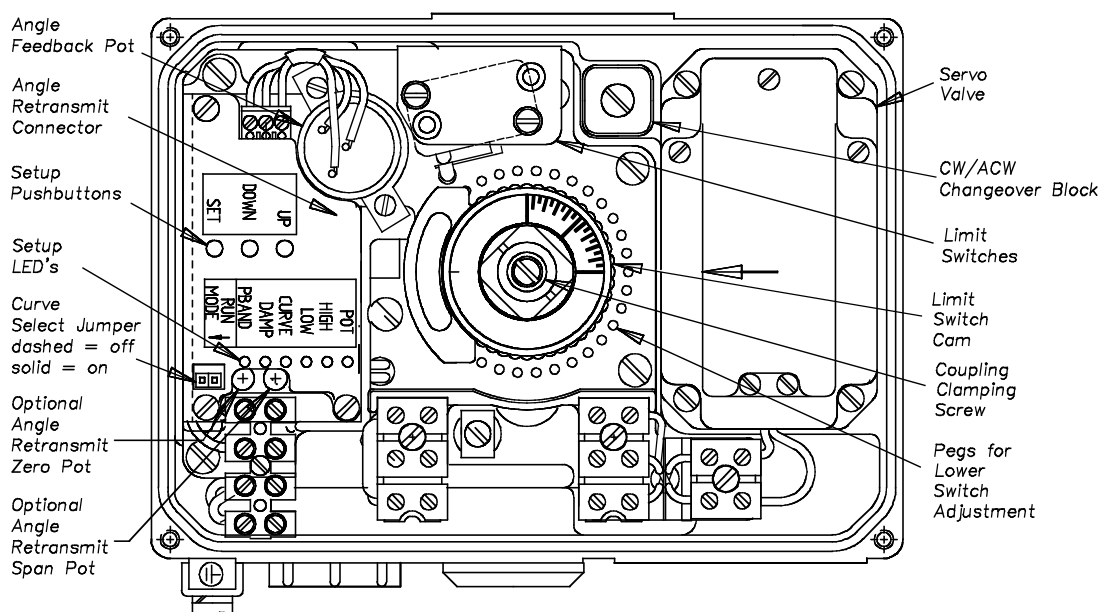

FIGURE 6a. DIGITAL EL CONTROL ADJUSTMENTS. OPEN BOX, TOP VIEW – MOULDED COUPLING.
**4.2.1** Moulded coupling cams, shown in figure 6a, can be adjusted using light pressure to rotate in 1 degree increments. Adjust the lower cam first using a screwdriver to lever against special pegs moulded into the carrier plate or use finger pressure. Secondly move the upper cam using finger pressure only. Graduated marks on the top of the coupling are provided to gauge the position of the actuator with the lid removed. This can be lined up with an arrow marked on the servo valve lid.